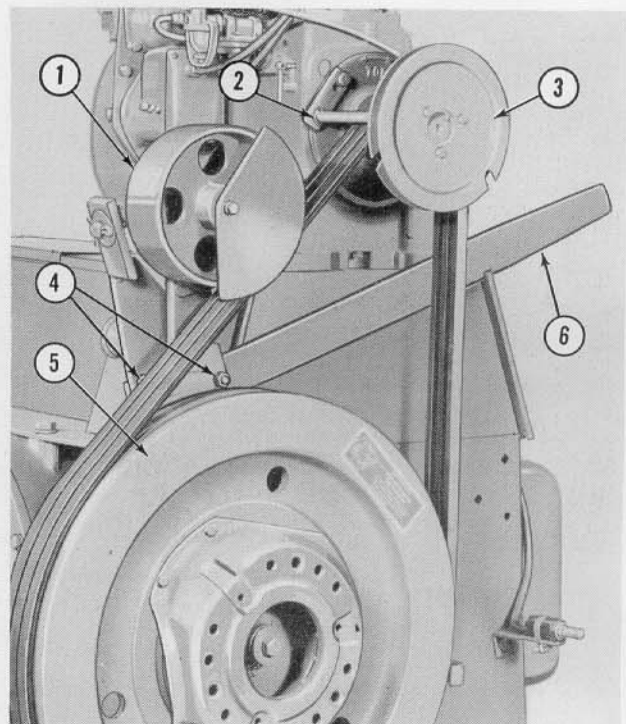

Figure 45
1. Attach the idler lever (6), Figure 45, to the idler arm with two $\frac{3}{8}$ " x $\frac{11}{8}$ " carriage bolts, lockwashers and nuts (4).
2. Install the three V-belts around the engine pulley (3), Figure 45, under the belt guide (2), under the idler pulley (1) and around the flywheel (5) as
- Engage the idler pulley and check to be sure that the V-belts clear the belt guide (2), Figure 45 by approximately $\frac{1}{8}$ ". If necessary, adjust the belt guide until the belts just clear it.